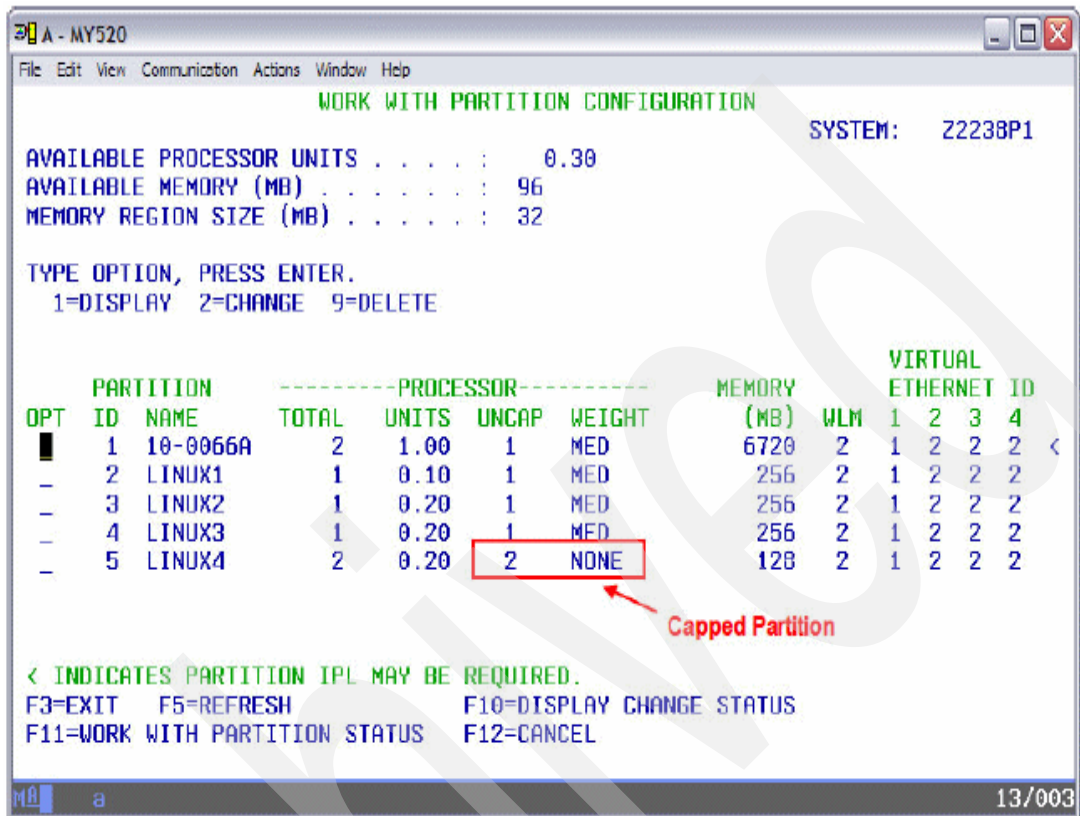

Figure 13-17 View of All new Partitions Defined
- Once you have defined all of your partitions, you can view them using Option 3 from *Work with System Partitions* as shown below in Figure 13-17. In this example, Linux4 was defined as a capped processor partition.